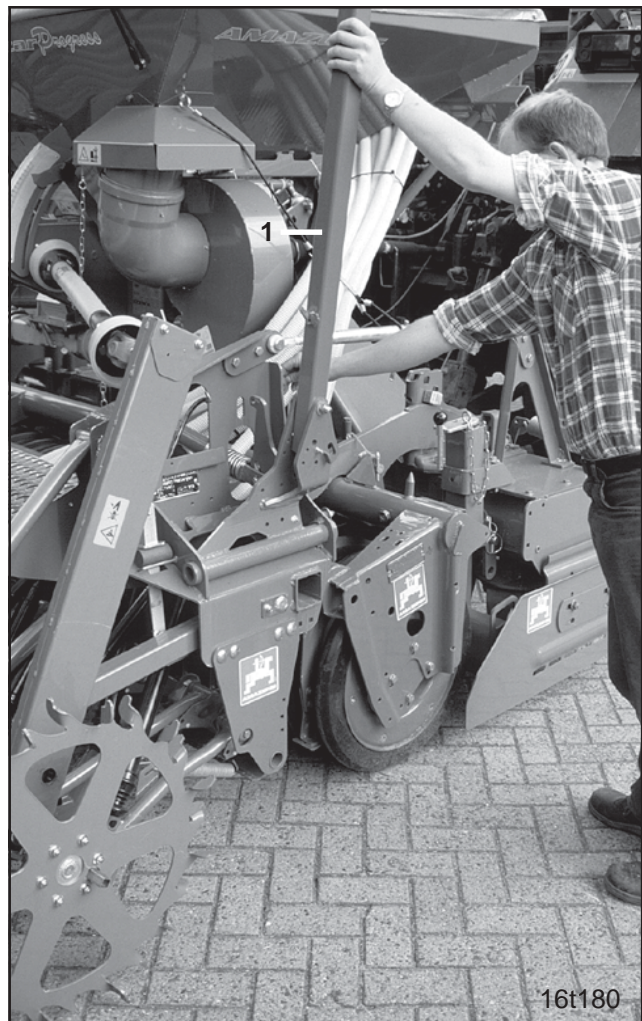
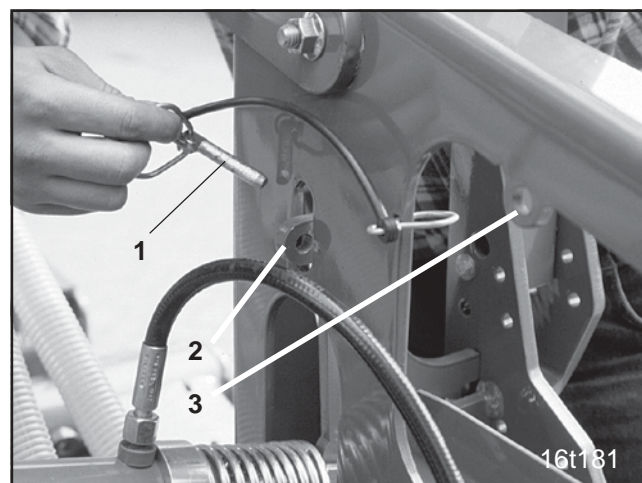

Fig. 11.3
Fig. 11.4
For transport, each marker arm (Fig. 11.3/1) is fixed with a clip pin (Fig. 11.4/1) in the hole (Fig. 11.4/2),
- remove clip pin (Fig. 11.4/1) only immediately prior to the operation in the field
- when not needed, insert the clip pin (Fig. 11.4/1) into hole (Fig. 11.4/3).
After removal of the clip pin (Fig. 11.4/1) the marker arm is tilting slightly to the side.
Before transport, the marker arms have to be fixed to the seed drill in reverse order and to be secured with clip pins (Fig. 11.4/1).
The buffer blocks prevent the transport securing of the markers by the clip pins / Fig. 11.4/1) to be forgotten.